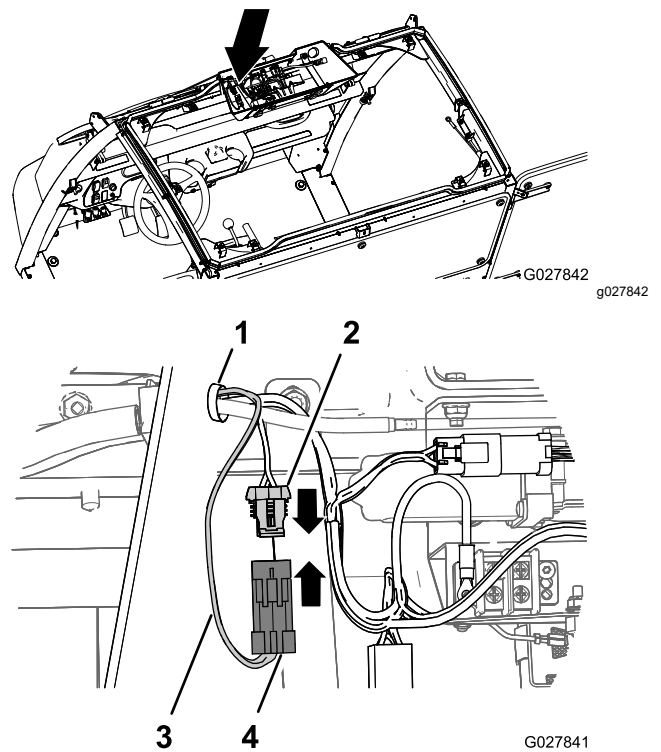

Figure 25
1. At the overhead console, route the 2-pin connector end of the wire harness for the washer pump through the hole in the overhead console (Figure 25).
2. Align the 2-pin connector of the washer pump wire harness to the 2-socket connector of the cab wire harness (Figure 25).
3. Push the 2 connectors together until the connector lock snaps secure (Figure 25).
4. Route the 2-socket connector of the wire harness for the washer pump to the left of the overhead console along the bulb seal at the front of the cab frame (Figure 25).